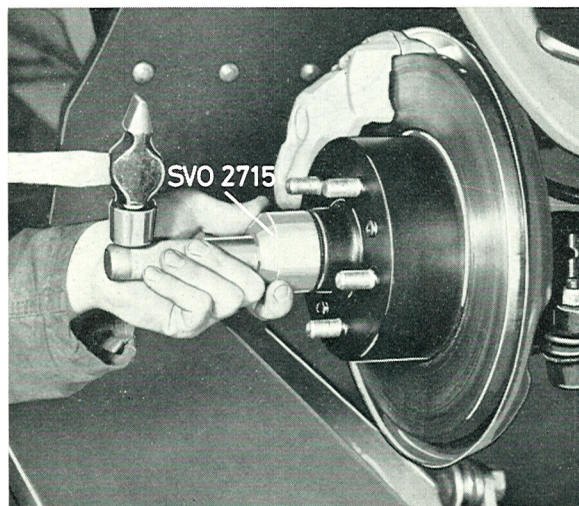

Fig. 6-14. Removing the grease cap
2. Remove the grease cap with tool SVO 2715, see Fig. 6-14. Remove the split pin and castle nut. Pull off the hub with puller SVO 2726, see Fig. 6-15. Pull off the inner bearing for the stub axle with tool SVO 2722, see Fig. 6-16.